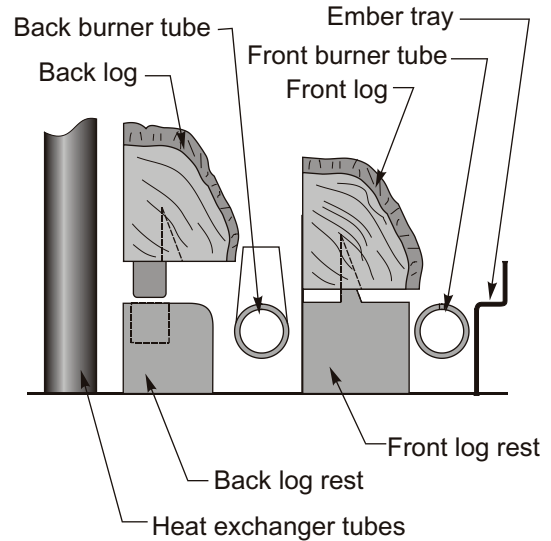

Figure 26. Positioning for the top logs ('C' and 'D').
3. Place the Back log onto the back log rest as shown below in figure 26. The log has lip on the bottom which fits into the slot on the log rest.
4. Place the Front log onto the front log rest as shown in figure 26. Center the log from side to side, and push it against the back of the log rest. Carefully push the log onto the metal spikes on the log rest.